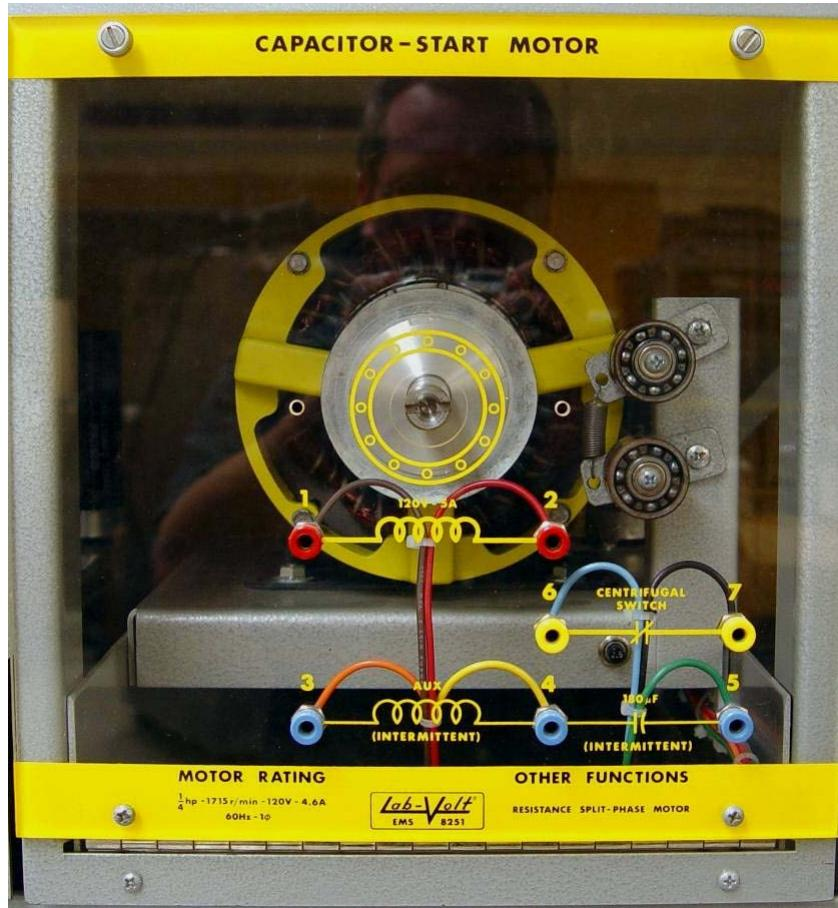

Figure 6-1
- 1) Examine the construction of the Split-phase/Capacitor start motor module (Figure 6-1). Identify the main stator winding that is composed of many turns of larger diameter wire. Identify the auxiliary stator winding – wound inside the main stator winding – that is composed of fewer turns of smaller diameter wire. Note that there are four main stator poles and four auxiliary poles. Observe the centrifugal switch mechanism mounted on the